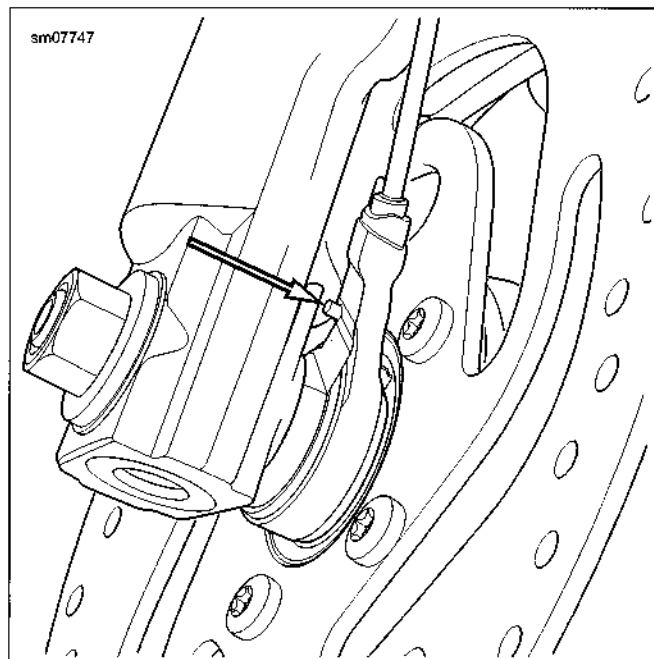

Figure C-2. WSS Index Pin
1. See Figure C-2. Position WSS with index pin to outboard side.